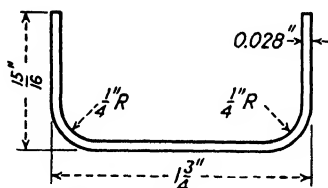

Fig. 320.—Two bends, each  $90^\circ$ .
86. Calculate the developed length of the part shown in Fig. 320.